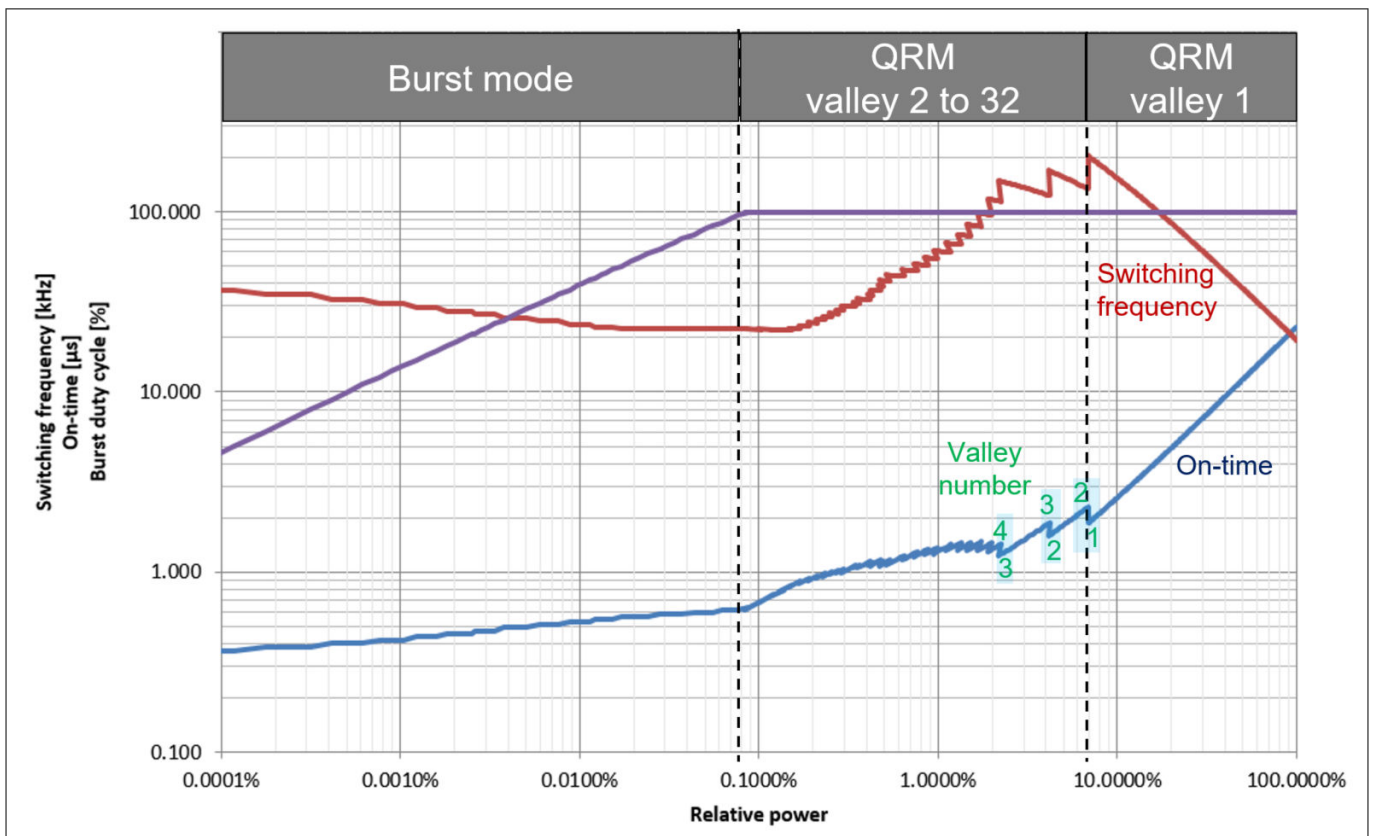

Figure 8 Exemplary switching characteristics versus relative power, with on-time compensation for valley changing
Figure 8 areas highlighted in blue show the on-time compensation effect (in zig-zag pattern) when, for example, the QRM valley number is increased from 1 to 2, from 2 to 3, and from 3 to 4. When the relative power is further decreased, the on-time compensation continues at higher valley changing position (in smaller zig-zag), until it reaches the maximum valley number of 32. To ensure the QRM switching frequency reduction stays above the audible range, the QRM off-time is limited to a maximum value of t_{off} (47 μs typ.).
- the system-dependent on-time compensation effect for valley number change (see Figure 8)